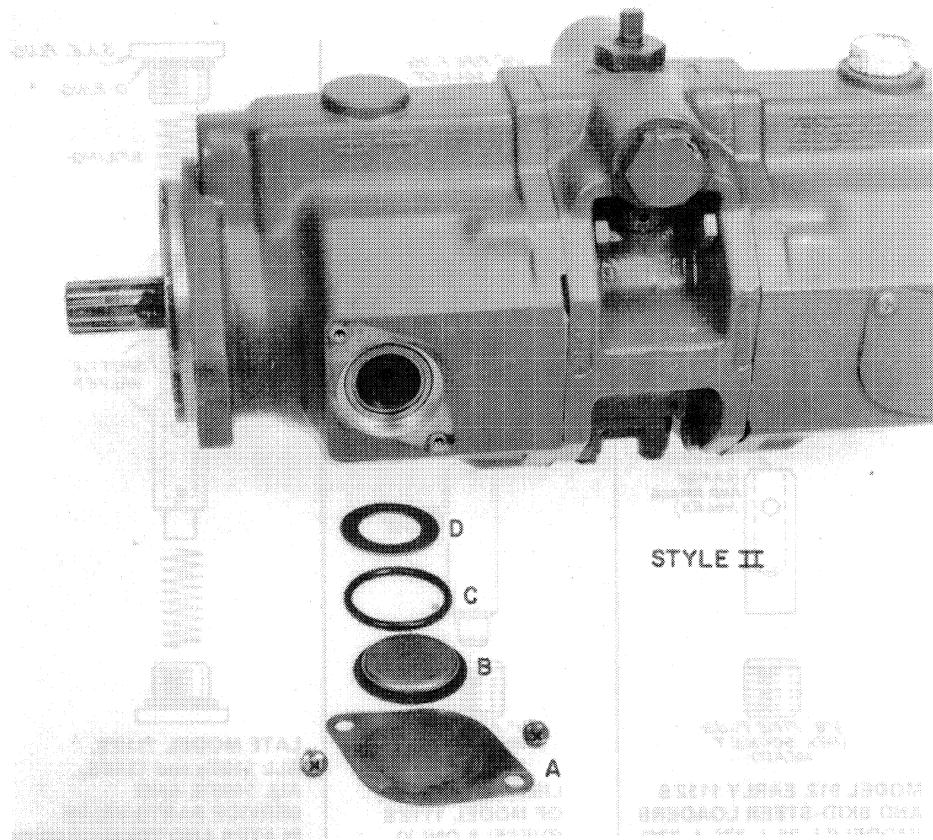
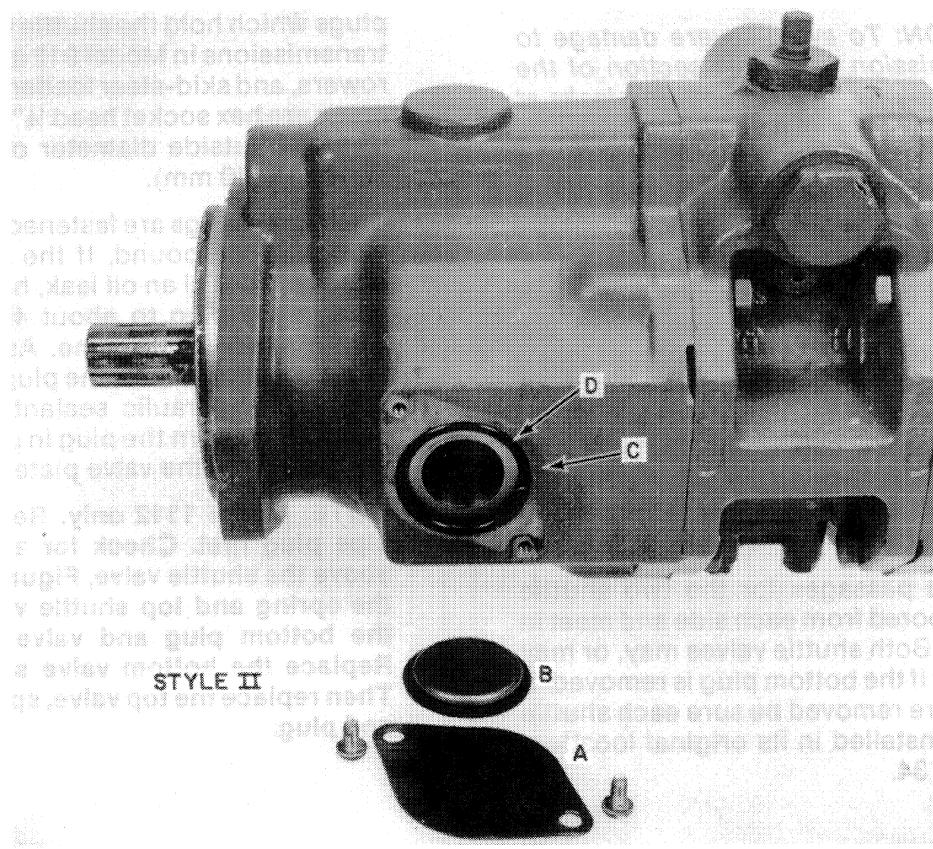

FIGURE 32
FIGURE 33
- (k) Figure 32 shows Type II seal for the short pindle shaft. Install flat washer, D, and O-ring, C, Figure 33. Install O-ring cover, C, and flat cover, A. Be sure the O-ring cover is centered on the O-ring. Hold the flat cover parallel to the bottom of the transmission and install the screws. Tighten the two screws alternately so the flat cover doesn't bend.